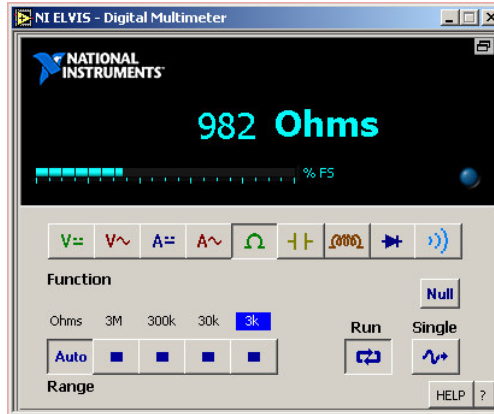

Fig. 7. Digital Multimeter SFP indicating the resistance value
9. Click the Ohm button to use the Digital Voltmeter function (DMM-Ohm) to measure the value of the resistor. If the Function Generator is in manual mode, the resistance and capacitance buttons are disabled. In order to control these buttons using the SFP, ensure that the manual mode is turned off on the workstation. Once the measurement is successful the output should appear as shown in figure 7. You have now successfully used the resistor ohm-meter with the NI Elvis SFP.